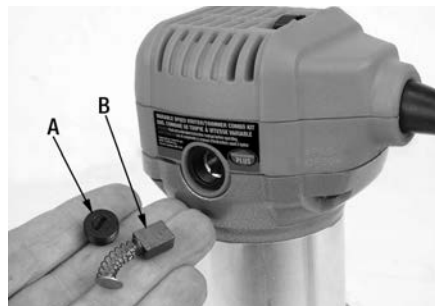

Figure 15
Using a flat head screwdriver, remove the carbon brush caps (A) Fig.15. Remove the carbon brush (B) and inspect it. Repeat this step for the second carbon brush on the opposite side.